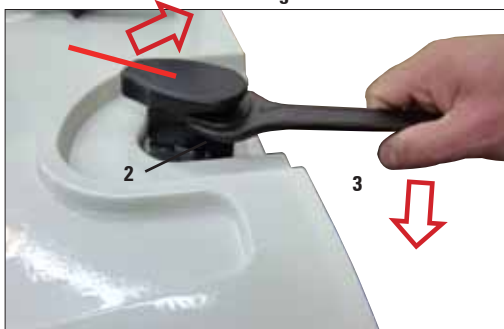

Fig. 75
- Put the single-head wrench in place below the retort lock (Fig. 75, 2).
- Turn the retort lock further clockwise using the single-head wrench (Fig. 75, 3) and overcome the stop (breaking the retaining pin at the predetermined breaking point).